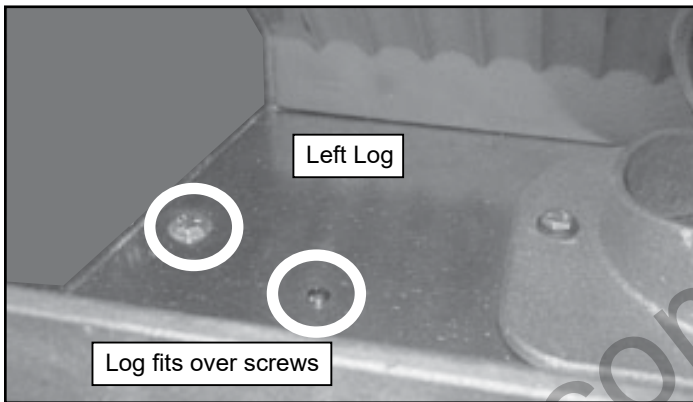
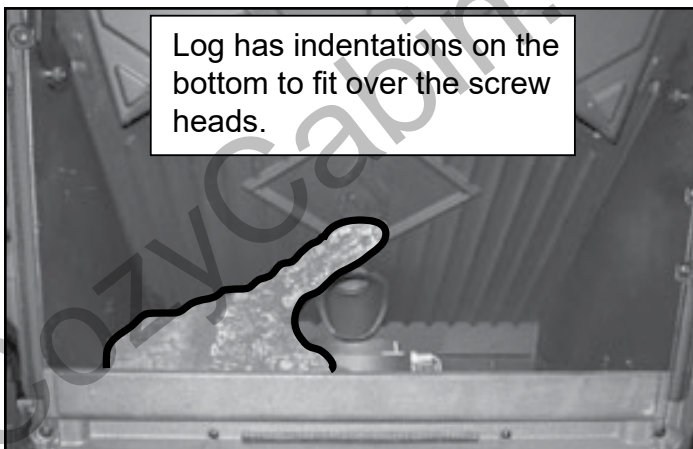

Figure 21.1
Figure 21.2
1. Place the left log as shown. There are 2 indentations in the bottom of the log to fit over the screw heads in the firebox (Figures 21.1 and Figure 21.2).